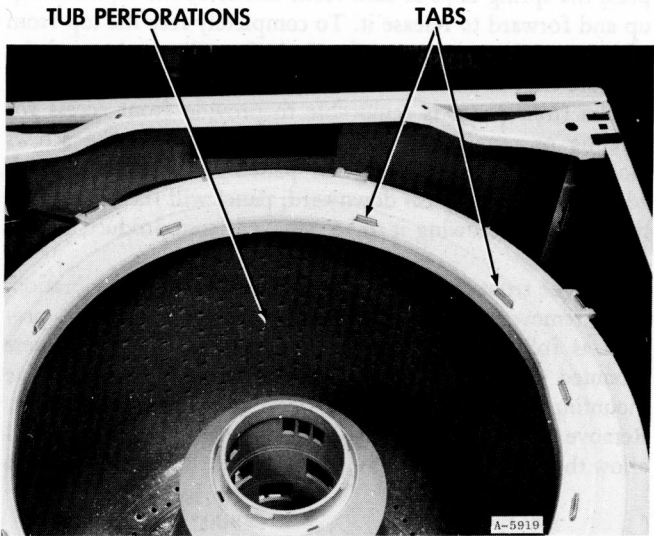

Figure 17
The sub top is held on to the outer tub by means of seven (7) stainless steel retainer clips, Figure 16. A rubber seal between the sub top and outer tub prevents water leaks during operation. Built-in hose clamps hold the fill, pump vent and recirculate hose in position. The vacuum break is held in place by built-in friction tabs. The sub top incorporates the lint filter and Jet Circle fill tube. It is held in place by tabs pulled thru slots in the subtop, Figure 17.
When the sub top is removed you can see the Jet Circle fill tube, Figure 17. This shows the fill openings and clamp that fastens it to the vacuum break. With this fill system the clothes get wet more evenly during fill, and the washing action is started faster at the beginning of the cycle.